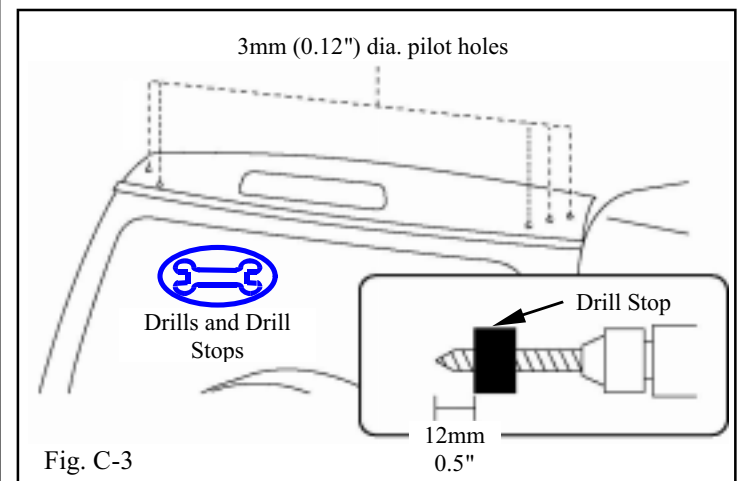

Fig. C-3
6. Use a 3mm drill bit, with a drill stop set to 12 mm (0.5") depth, to drill pilot holes in all punched locations. (Fig. C-3)